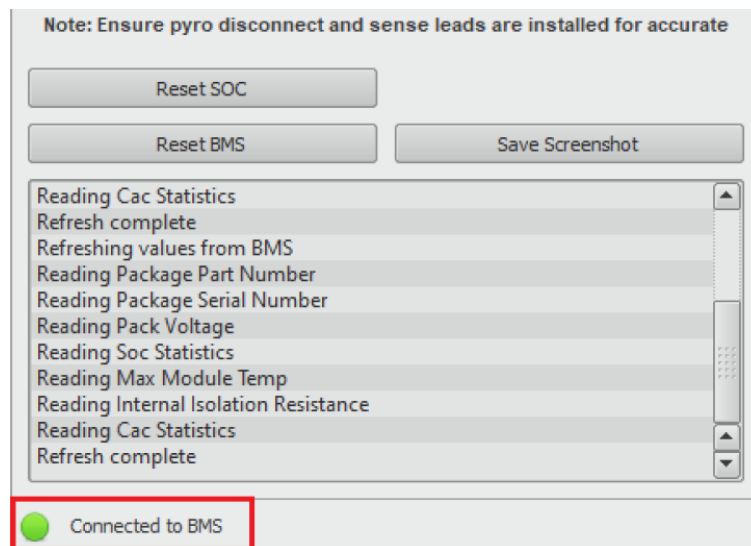

Figure 10
7. Make sure that the green dot in the left hand lower corner of the window is illuminated (Figure 10).